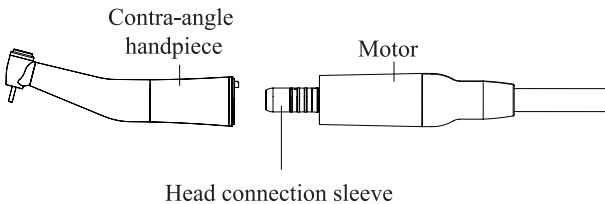

Figure 4
5.2 Turn on the power switch on the main unit, the screen will display and enter the main control interface (Figure 4).